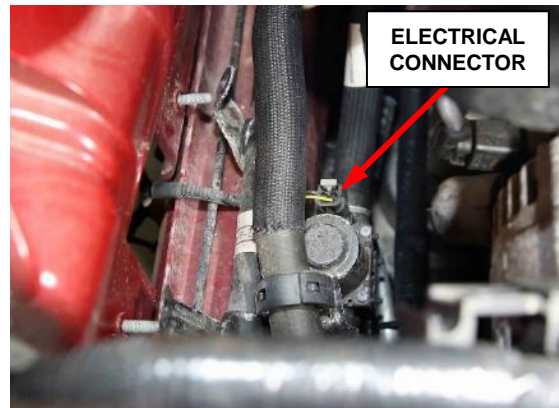

Figure 36 – Coolant Bypass Valve
- 49. Disconnect the coolant bypass valve electrical connector (Figure 36).
77. Connect the coolant bypass valve electrical connector (Figure 36).